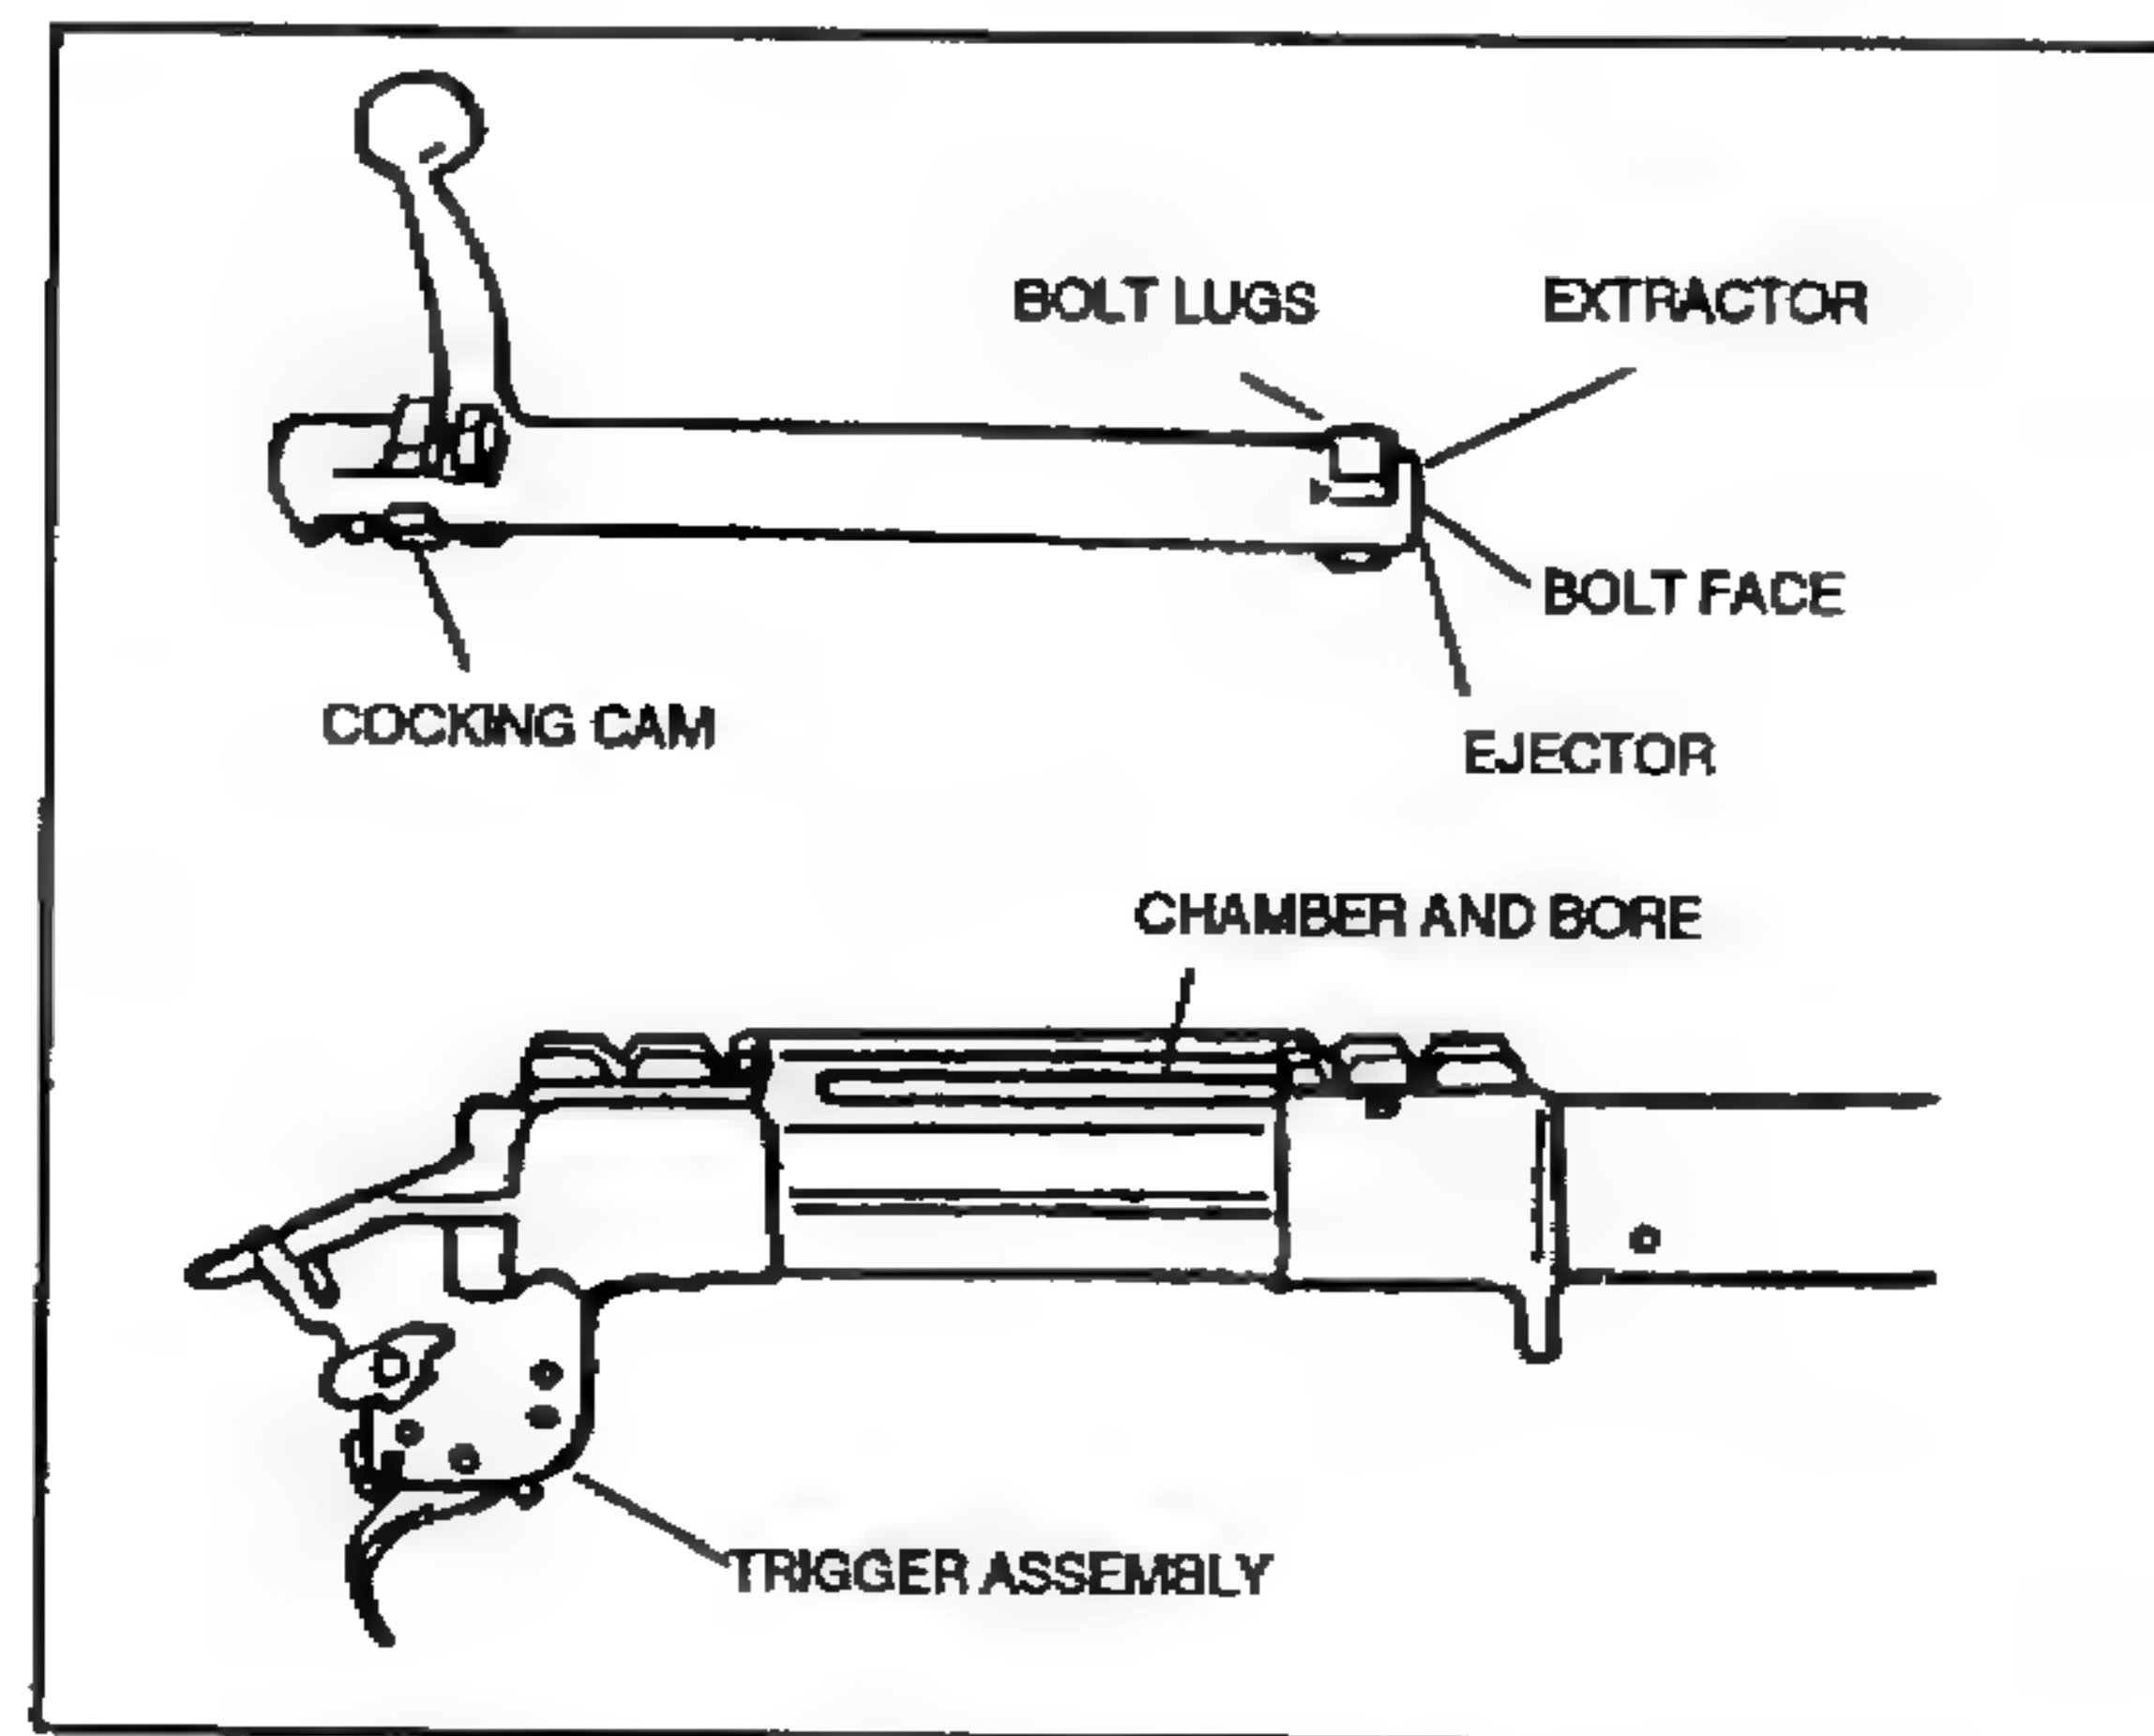

Figure 2-13. Maintenance for storing or using.
e. Storage. The M24 SWS should be stored (Figure 2-13) using the following procedures: